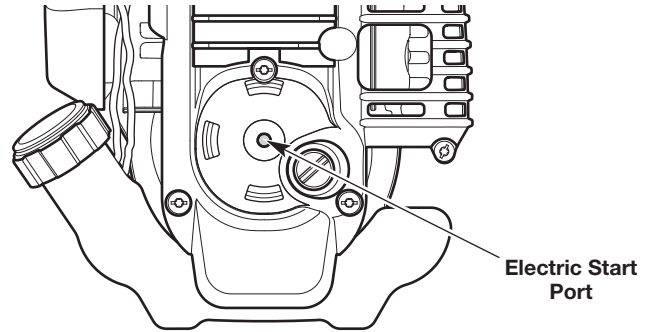

Fig. 11
4. Insert the electric start accessory into the electric start port (Fig. 11).